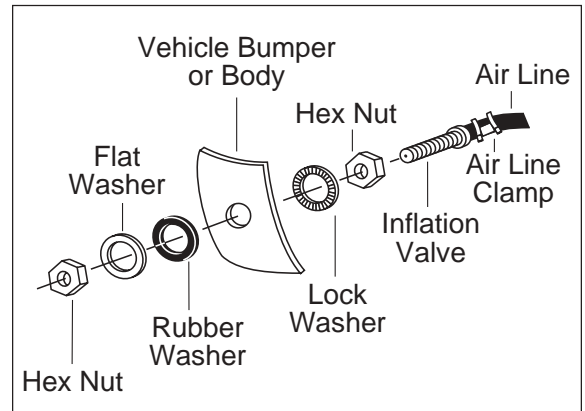

Figure 8
J. Drill a 5/16" hole for inflation valve and mount as in illustration (Figure 8). Rubber washer is for outside weather seal.
F. Drill 5/16" hole for inflating valves and mount as illustrated. Rubber washer is for outside weather seal (Figure 8).